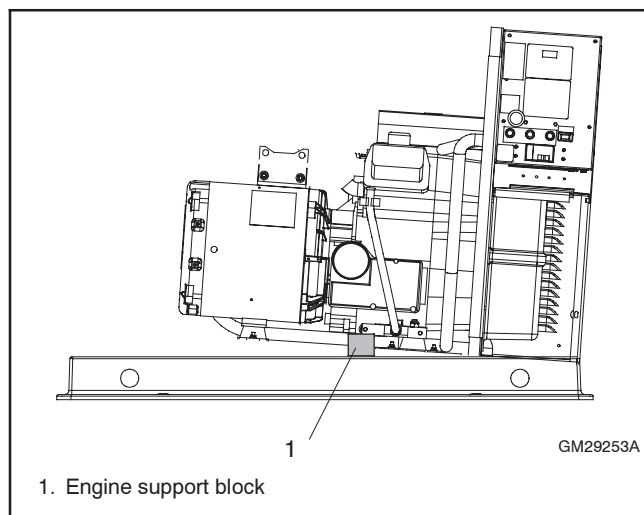

Figure 7-9 Generator Set, Right Side
- b. Raise the alternator end of the generator set enough to place a thin block of wood beneath the rear of the engine. See Figure 7-9.